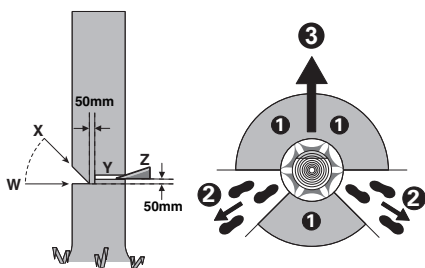

Figure 1
An escape path should be planned and cleared as necessary before cuts are started. The escape path should extend back and diagonally to the rear of the expected line of fall as illustrated in Figure 1.
Make the notch 1/3 the diameter of the tree, perpendicular to the direction of falls as illustrated in Figure 1. Make the lower horizontal notching cut (W) first. This will help to avoid pinching either the saw chain or the guide bar when the second notch (X) is being made.
Make the felling back cut (Y) at least 50 mm higher than the horizontal notching cut as illustrated in Figure 1. Keep the felling back cut parallel to the horizontal notching cut. Make the felling back cut so enough wood is left to act as a hinge. The hinge wood keeps the tree from twisting and falling in the wrong direction. Do not cut through the hinge.
As the felling gets close to the hinge, the tree should begin to fall. If there is any chance that the tree may not fall in desired direction or it may rock back and bind the saw chain, stop cutting before the felling back cut is complete and use wedges of wood, plastic or aluminium (Z) to open the cut and drop the tree along the desired line of fall (3). When the tree begins to fall remove the Chainsaw from the cut, stop the motor, put the Chainsaw down, then use the retreat path planned (2). Be alert for overhead limbs falling and watch your footing. (See Figure 1)